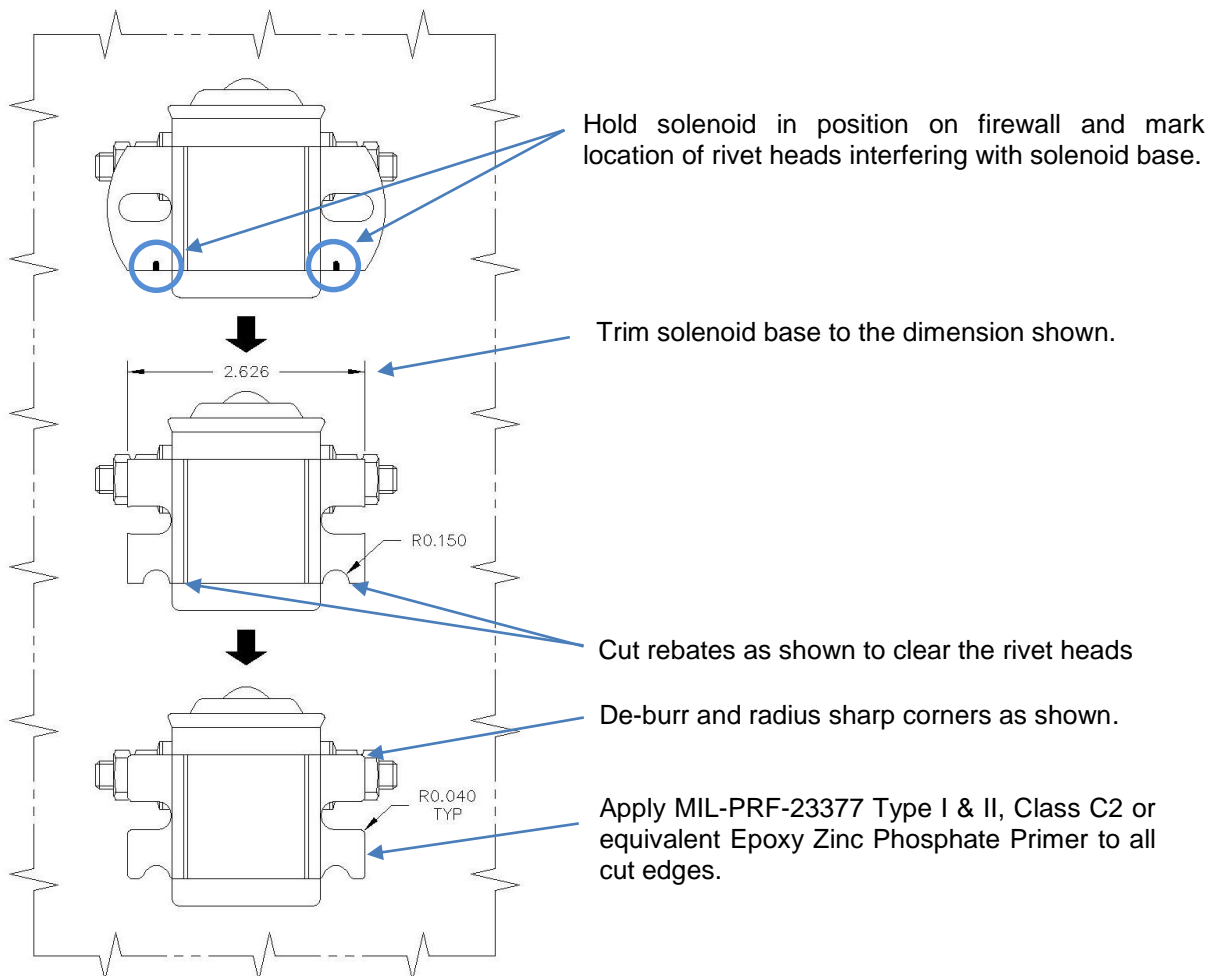

Figure 7: P/No. STS-S12 Solenoid Modification
12.2.5 P/No. STS-S12 solenoids made by “Lamar Technologies” have slightly different mounting plates which may impact the solenoid mounting bracket in some cases. Where this occurs, the solenoid may be modified as detailed in Figure 7 below: